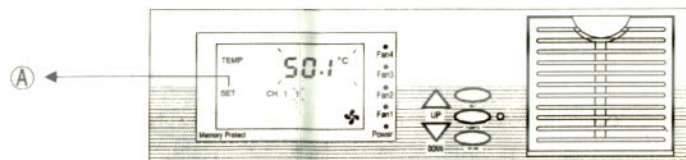

Figure 4
1) Pressing the SET button two times, opens the set mode for sensor channel 1. On the LCD display, SET and 1 are displayed (Figure 4-A), and the temperature setting is blinking.